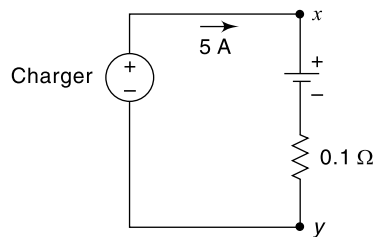

Fig. 1.15
20. A battery of emf 6 V and internal resistance of 0.1Ω is charged by a dc charger (Fig. 1.15) with a constant current of 5A. What is the p.d. across the terminals x-y? (Ans: 6.5 V)